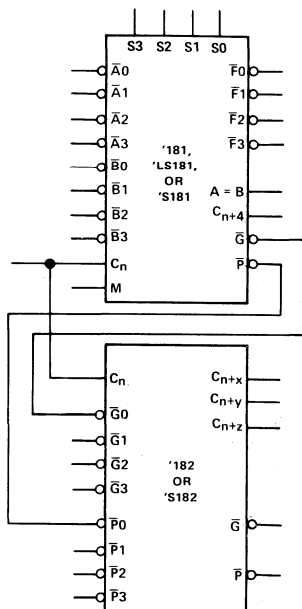
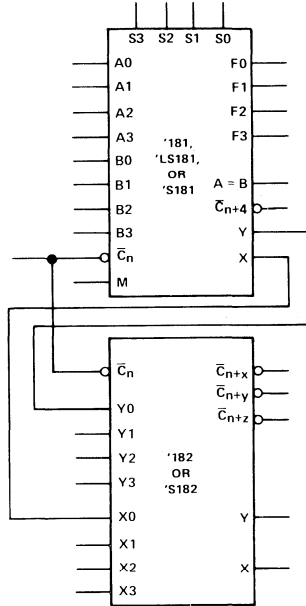

FIGURE 1
FIGURE 2
The '181, 'LS181, and 'S181 together with the '182 and 'S182 can be used with the signal designations of either Figure 1 or Figure 2. The inversion indicators (O) and the bars over the terminal letter symbols (e.g.,  $\bar{C}$ ) each indicate that the associated input or output is active with respect to the selected function of the device when that input or output is low. That is, a low at  $\bar{C}$  means "do carry" while a high means "do not carry".
The logic functions and arithmetic operations obtained with signal designations of Figure 1 are given in Table 1; those obtained with signal designations of Figure 2 are given in Table 2.